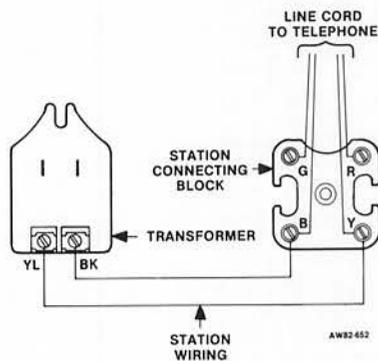

Figure 2: Installation Of Power Transformer
2.02 A lamp may be added to Trendline telephones for illuminating the dial and number card. The lamp must be ordered separately. Installation consists of inserting the lamp into the lamp housing located in the handset under the number card retainer. A power transformer must be ordered and installed at the station connecting block as shown in Figure 2. Refer to Section 50-254-101 for lamp and power transformer ordering information.